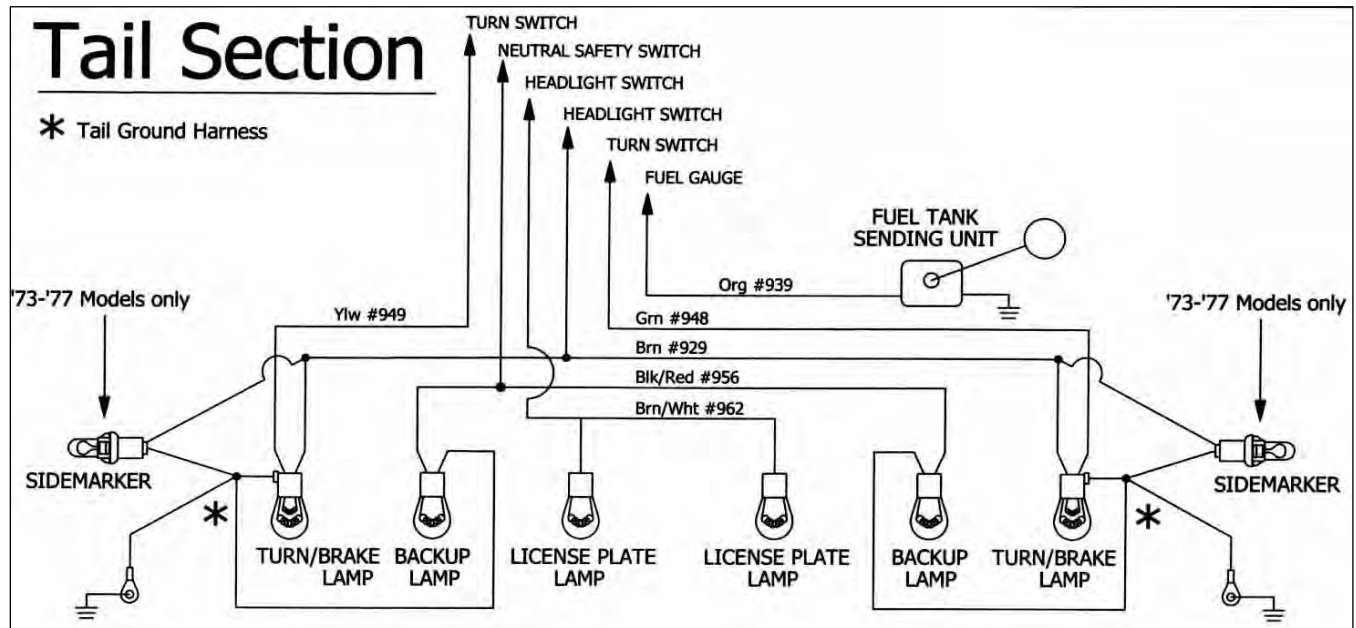

Figure 7-13 Tail Section for all Model Trucks
7.5.1 The TAIL SECTION consists of wires for: Taillights, Stoplights, Left and Right Turn Signals, Side Marker Lights, Backup Lights, License Plate Lights, and the Fuel Tank Sending Unit. **Connect the wires from the harness directly to the light sockets.** See Figure 7-13. **Note: '67-'72 Models DO NOT use the Tail Ground Harnesses. The grounds for the lamps are provided through the stamped steel tail light housings.**